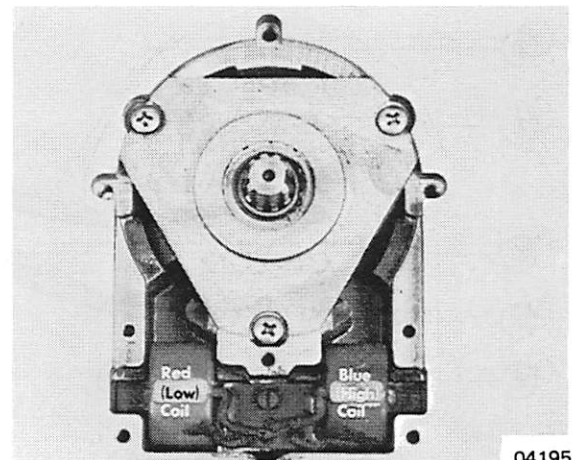

Figure 2. Bearing Cap Installed
1. Install magnetic rotor and bearing assembly into ignition driver housing. Place bearing cap over magnetic rotor and tighten 3 screws securely (place a small amount of Loctite on screws) and evenly. (Figure 2) Turn magnetic rotor assembly over by hand, checking that there is no binding of shaft.